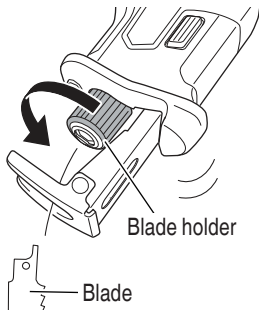

Fig. 12
- (1) After turning the blade holder, point the blade downward. The blade should fall out on its own. If the blade fails to fall out, pull it out by hand. (Fig. 12)